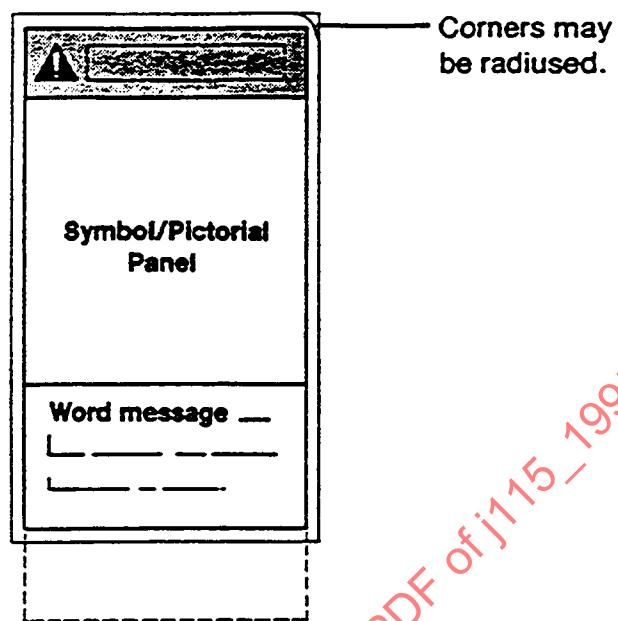
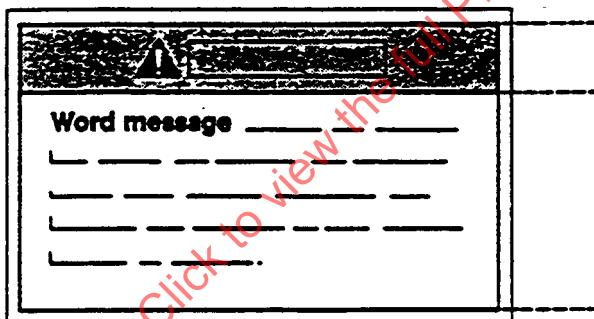

FIGURE 2—THREE-PANEL SIGN—VERTICAL FORMAT
FIGURE 5—TWO-PANEL SIGN—HORIZONTAL FORMAT
- 4.2 Panel Arrangement**—The sign panels can be either in a horizontal or vertical arrangement (Figure 2 through Figure 5). The figures, as shown are sample formats. Actual size, layout, and proportion may vary depending on application requirements.